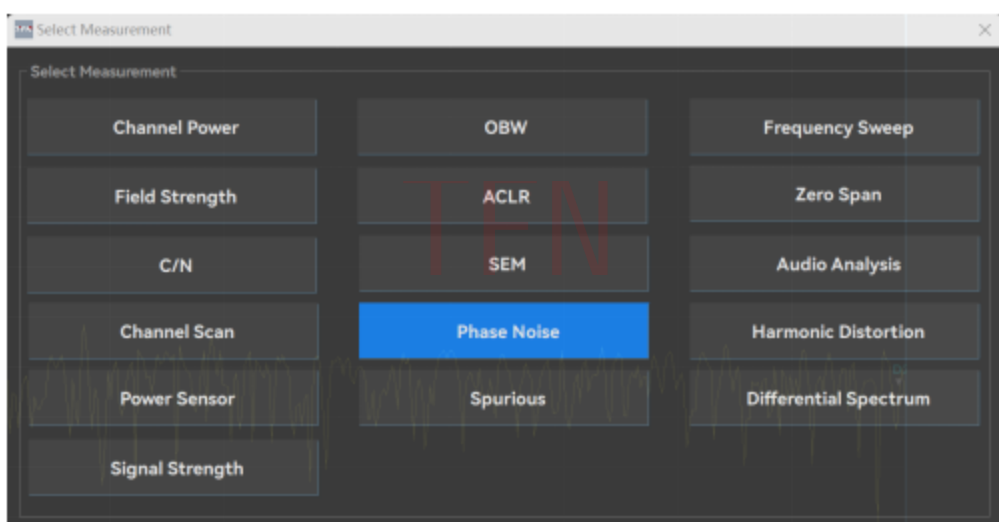

Figure 5.32 Select the measurement interface diagram
Step 3. Press [Measurement] to select [Phase Noise], and the interface displays as shown in Figure 5.32: